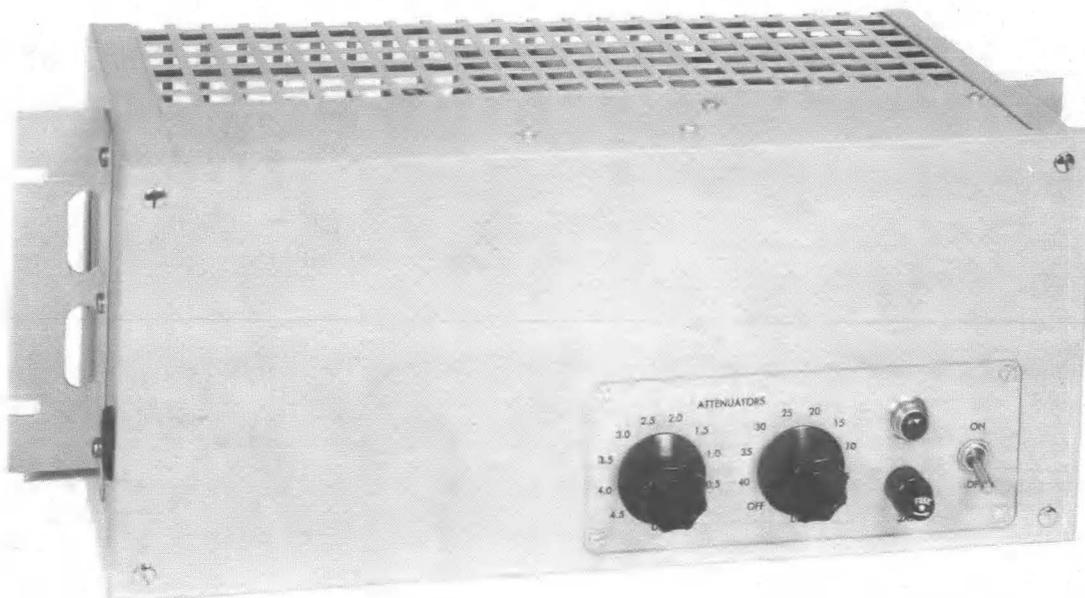
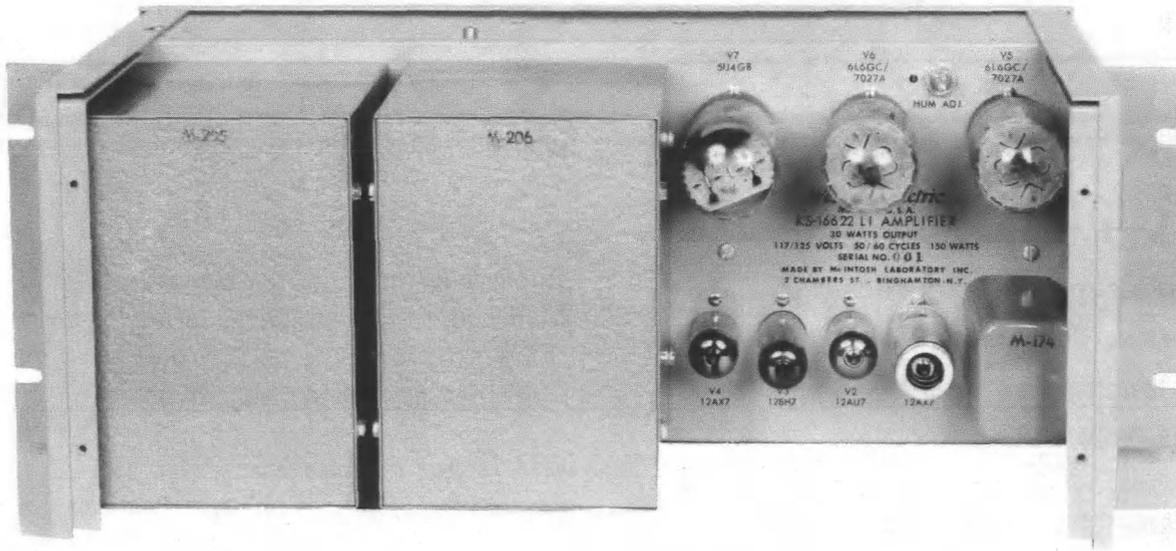
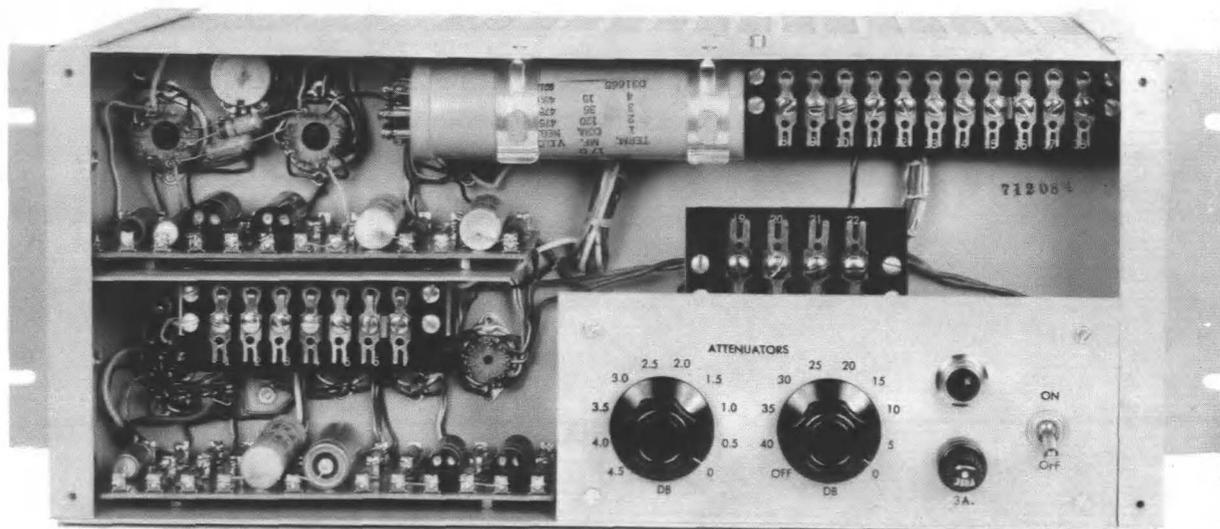

Fig. 1 — Front View of Amplifier
Fig. 2 — Rear View of Amplifier
Fig. 3 — Front View of Amplifier with Front Cover Removed
1.03 Fig. 1 shows the front view of the amplifier with the front and rear covers assembled. Fig. 2 shows a rear view of the unit with the perforated cover removed. Fig. 3 shows